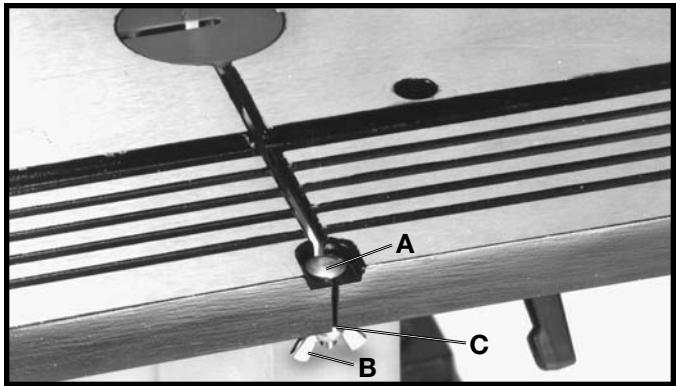

Fig. 11
Insert M6 x 30mm button head bolt (A) Fig. 11, down through hole in table, as shown, and place a M6 flat washer (C) onto bolt from underneath table and fasten in place with an M6 wing nut (B).
5. Remove table alignment screw (A) Fig. 11 and table insert.
11. Replace table insert and alignment screw (A) Fig. 11, that was removed in **STEP 5.**